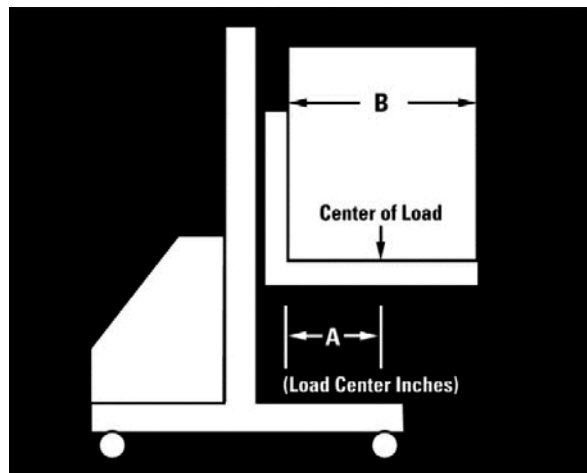

Figure 1
4. Do not exceed load center capacity of stacker. Load center is measured horizontally from back of forks or platform. See *Figure 1*. The load center (A) is 20-inches on the JHS-2200A Stacker.